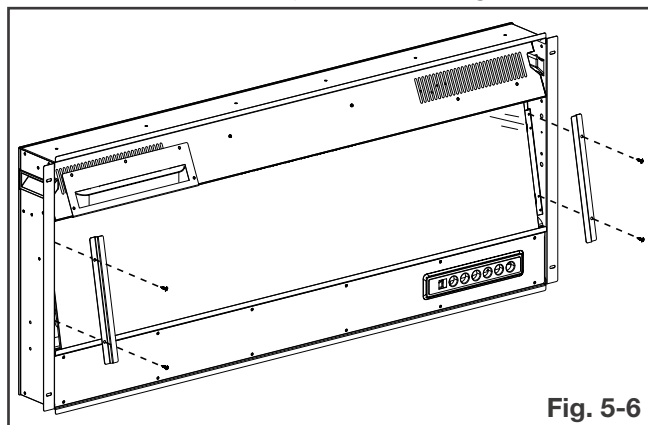

Fig. 5-6
- Remove the four screws holding the glass retainer brackets in place, then remove the brackets and set them aside (**Fig. 5-6**).